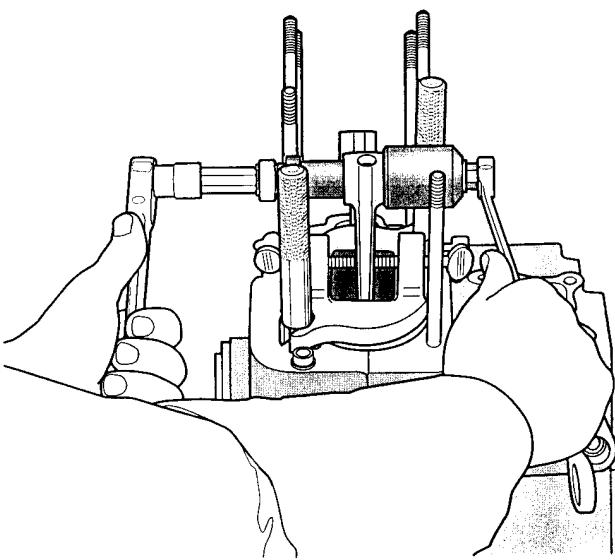

Figure 3-125. Remove/Install Bushing
- g. Holding nut (7) with a 5/8 in. box wrench, turn hex cylinder (1) with a 5/8 in. socket until bushing is free. See Figure 3-125.
6. Thread the hex cylinder (1) onto rod until assembly is snug.
7. Holding nut (7) with a 5/8 in. box wrench, turn hex cylinder (1) with a 5/8 in. socket until collar on driver bottoms against connecting rod. See Figure 3-125.